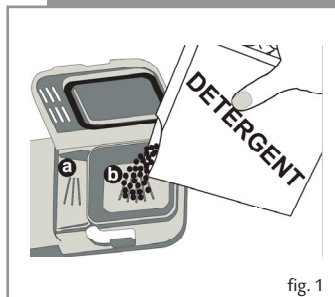

fig. 1
2. Add the required amount of detergent. The main detergent compartment (b in figure 1) has lines to allow for specific amounts of detergent.
If your dishes are in need of an intensive wash, then add 5 cm3 of detergent into the prewash section of the compartment (a in figure 1).